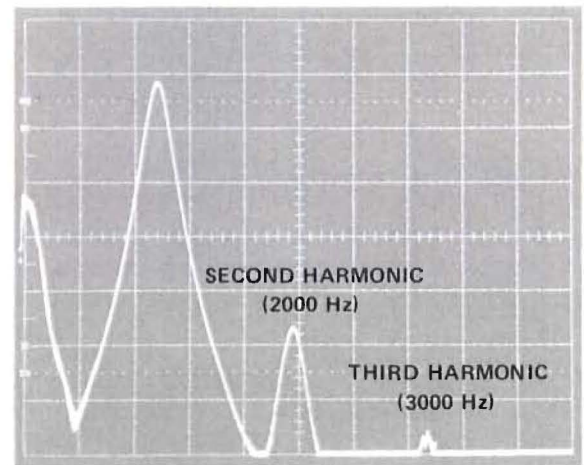

Figure 19 Harmonic Distortion with Strong Second Order Components
3. Harmonic distortion appears as multiple signals above the fundamental 1000 Hz tone. Switch to 10 dB/DIV mode and observe the position and amplitude of the 2nd harmonic (2000 Hz) relative to the 1000 Hz reference tone (Figure 19). The amplitude ratio between the two, in dB, is the second order harmonic distortion. This ratio can be converted to percentage of distortion by referring to the chart in Figure 20.